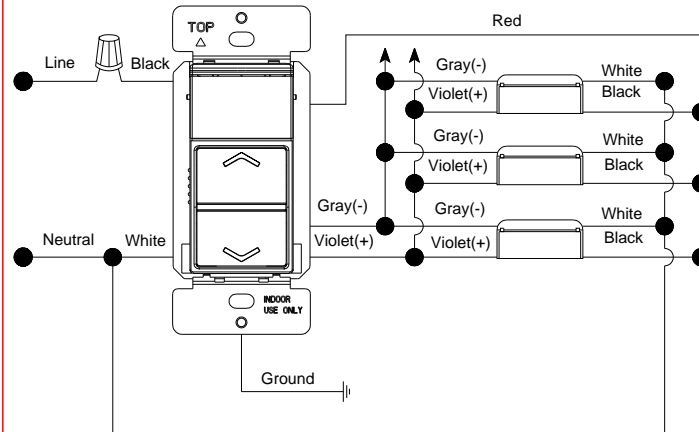

Figure 2
2. Connect the SMRT-WALL-OCC-VAC-PIR-DIM as shown in the WIRING DIAGRAM (see Figure 2).